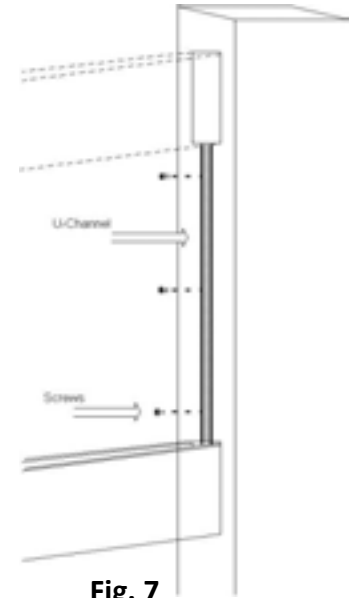

Fig. 7
Step 1. Center the U-channels against the post between the top of the hole for the bottom rail and the bottom of the hole for the top rail, with the flat side of the U-channel against the posts. Drill pilot holes and secure the U-channels to the posts using the #10, 1/2" pan head screws supplied (Fig. 7).